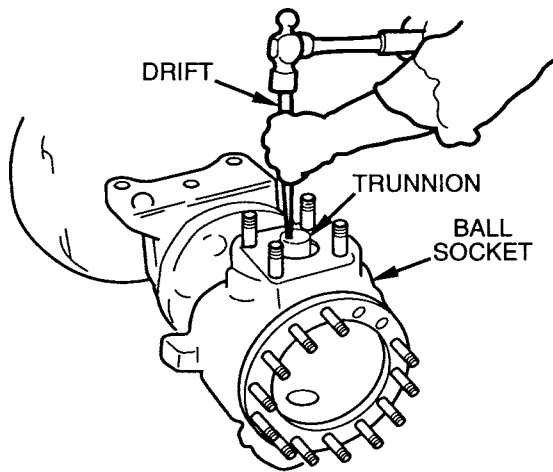

Figure 10 Driving Out Trunnions
12. Remove capscrews (3) and bearing retainer plate (4) from upper and lower ball trunnions (5).
13. Using a suitable drift, drive trunnions out of the ball socket. (See Figure 10).